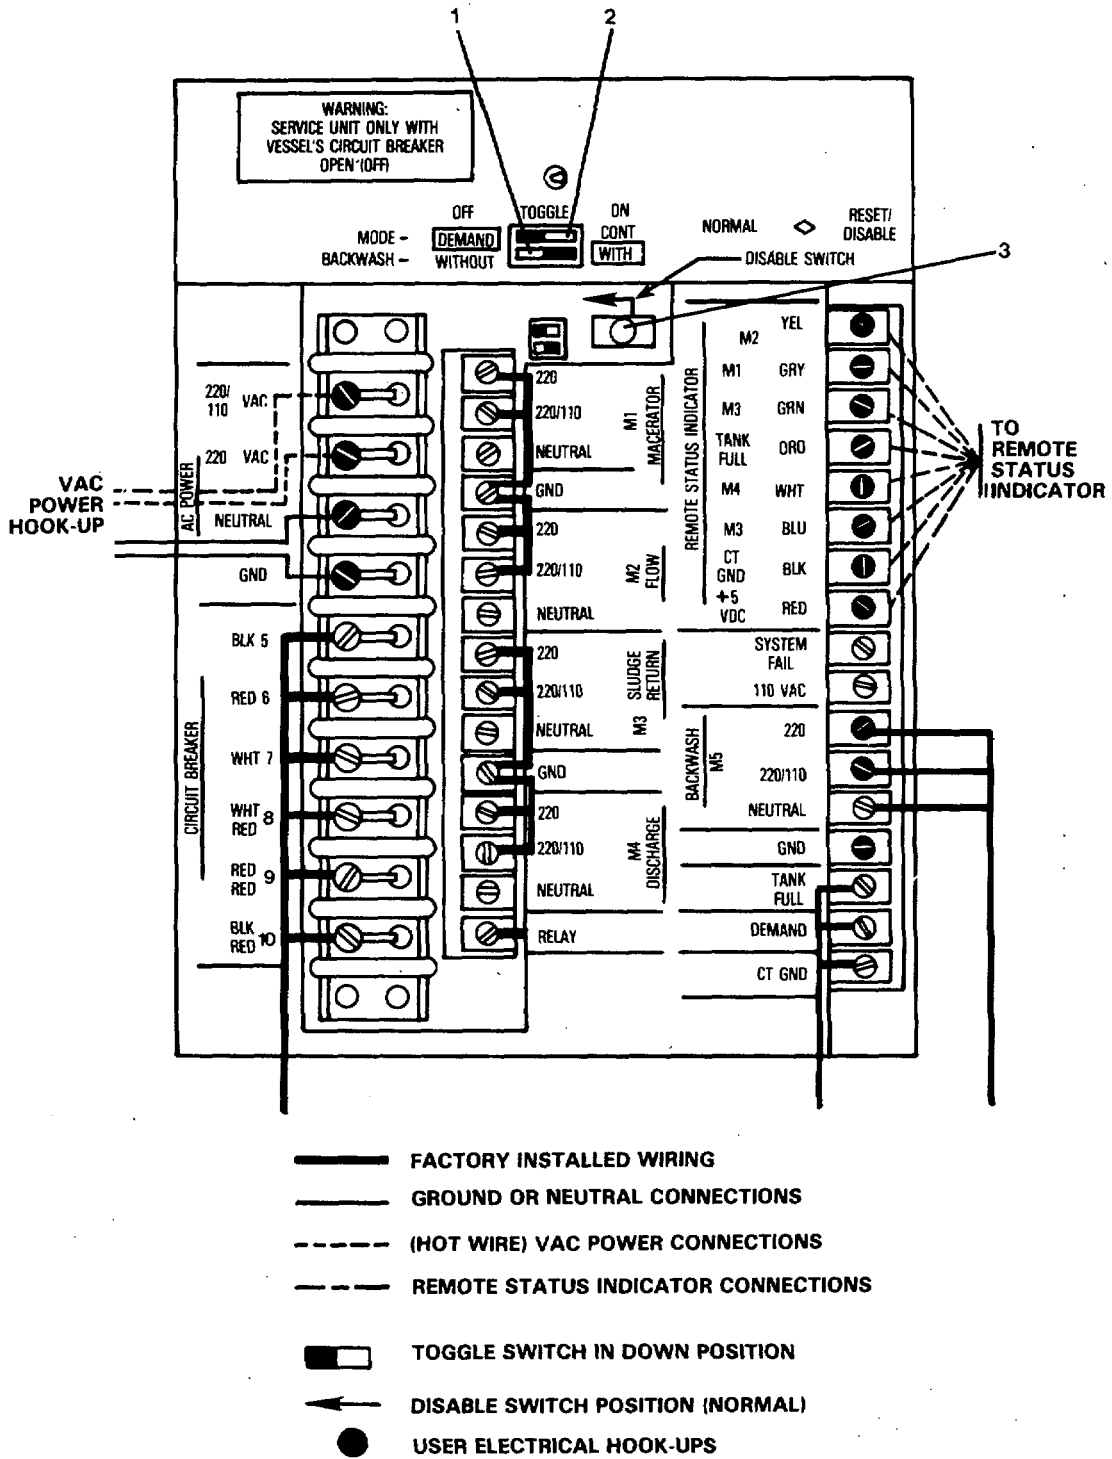

Figure 2-1. Junction Box (Control Module Assembly) Printed Circuit Card and Connections.
- (1) Continuous. In this mode, the unit operates continuously regardless of sewage level in the treatment tank.
- (a) The MODE toggle switch (2, FIGURE 2-1) should be in the CONT (continuous) position.
- (b) The NORMAL/RESET/DISABLE switch (3) should be in the NORMAL position.
- (2) Demand. In this mode, the unit comes on when the treatment tank sensor senses sewage. All pumps will operate for about 18 minutes or until the sewage process is complete.
- (a) The MODE toggle switch (2, FIGURE 2-1) should be in the DEMAND position.
- (b) The NORMAL/RESET/DISABLE DEMAND switch (3) should be in the NORM position.
- (3) Disable. In this mode, the unit must be operated manually by the control module circuit breaker. The NORMAL/RESET/DISABLE switch (3) should be in the "DISABLE" position.
- (1) Remove treatment tank cover and gasket during initial startup (paragraph 2-11).
- (2) Set the NORMAL/RESET/DISABLE switch (3, FIGURE 2-1) to the NORMAL position.
- (3) Fill the chlorine (bleach) storage tank with bleach and check for leaks.
- (4) Apply water pressure to the backwash water line.
- (5) Open all sewage inlet and discharge valves.
- (6) Set the MODE toggle switch (2, FIGURE 2-1) to the DEMAND position.
- (7) Set the BACKWASH toggle switch (1) to the WITH position.